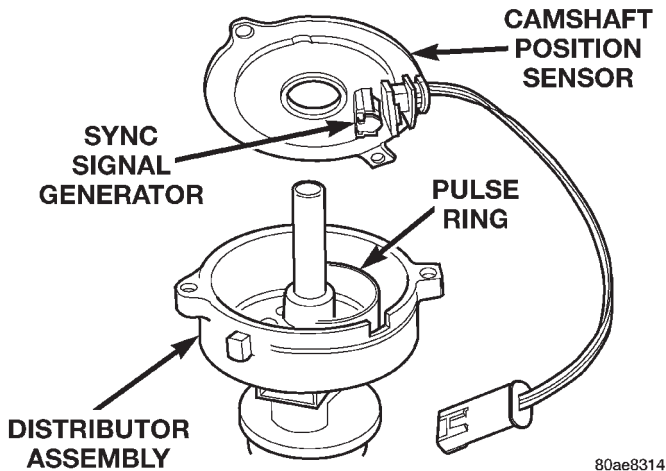

Fig. 24 Camshaft Position Sensor
The camshaft position sensor is located in the distributor (Fig. 24).
(4) Remove distributor rotor from distributor shaft.
(5) Lift camshaft position sensor assembly from distributor housing (Fig. 24).